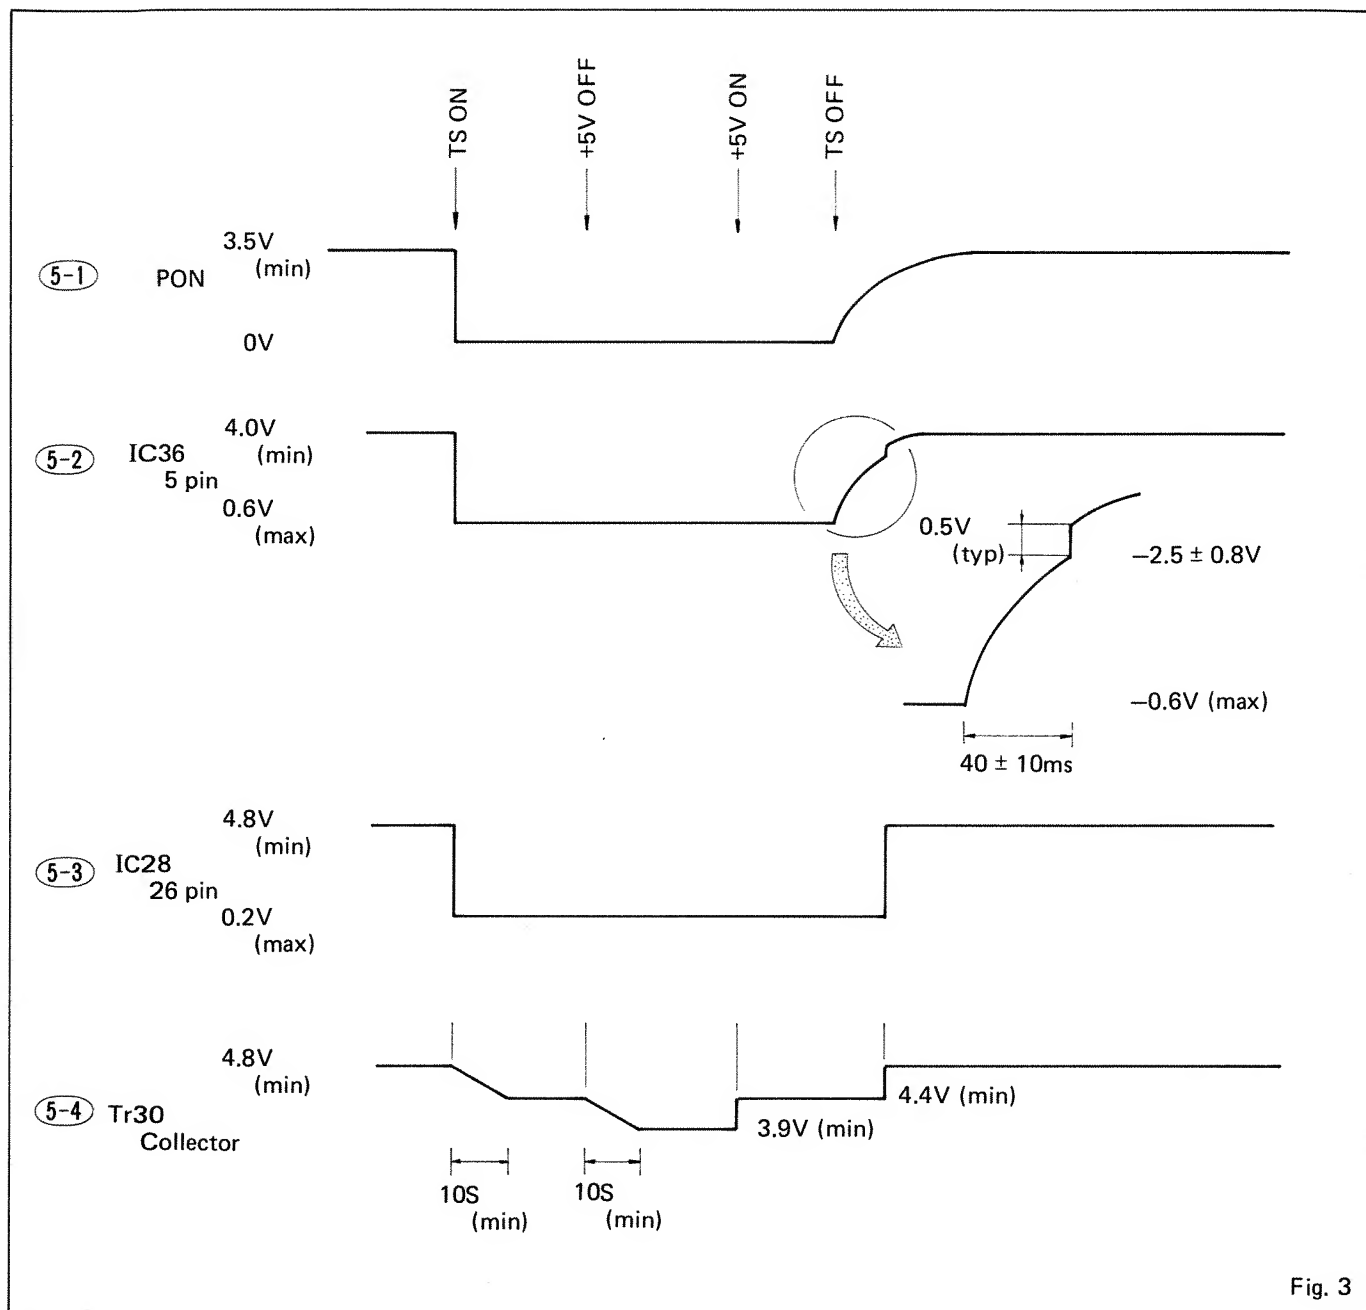

Fig. 3
Waveforms as provided in Figure 3. Should be obtained when +5 volts and TS is set to ON or OFF.
3. Waveforms should vary as shown in Figure 3 when PW is shifted up to 90% under a condition as described in item A-2.